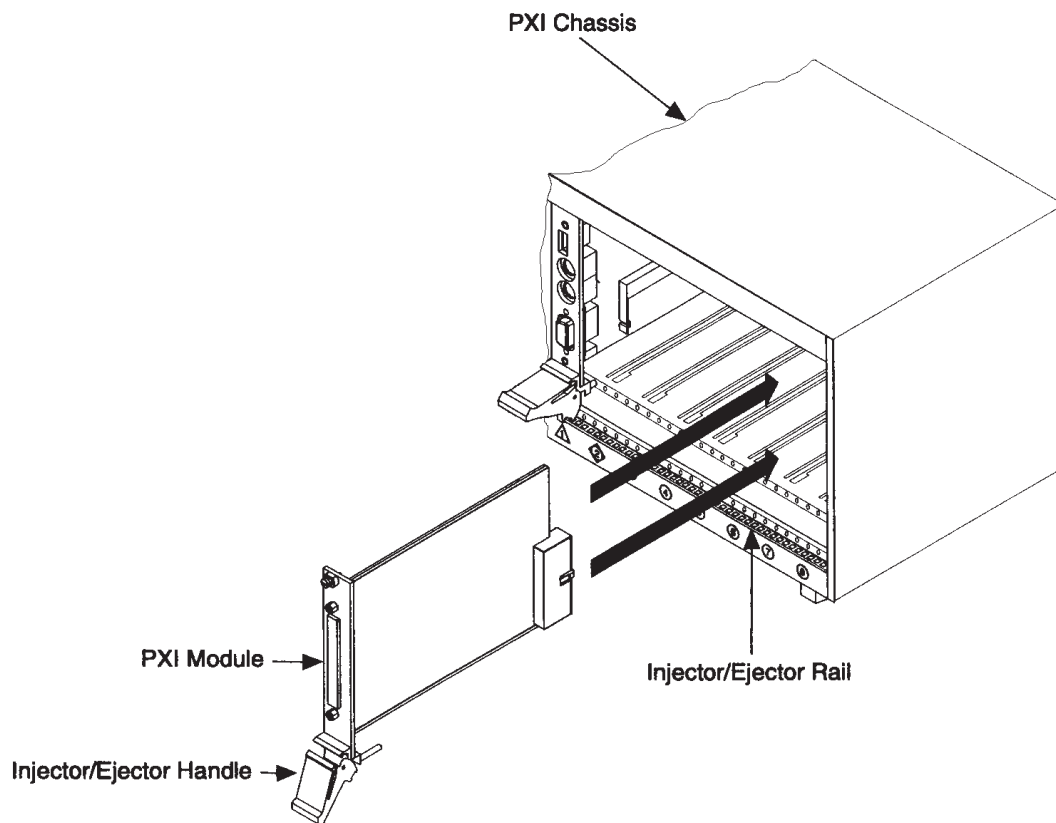

Figure 3.5 - Installing a module into the PXI Chassis
7. Hold the handle whilst slowly sliding the module into the module guides until the handle catches on the injector/ejector rail (refer to Figure 3.5).